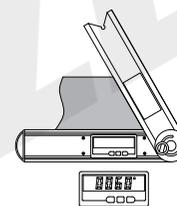
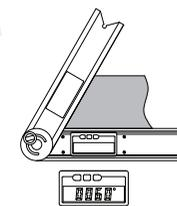
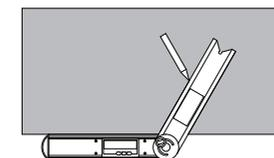

fig.7
fig.8
fig.9
- c. Measure angle (Fig.7, Fig.8) and scribe (Fig.9).